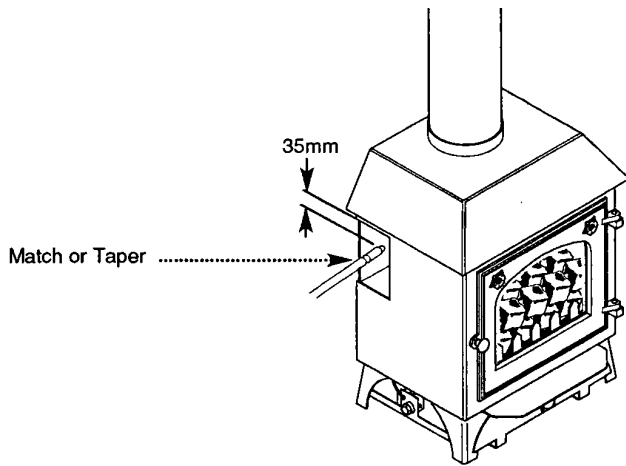

Fig. 23
4. Insert a lighted smoke match in the draught diverter at the left hand side. The match should be positioned 35mm from the top edge of the diverter (Fig. 23). All the smoke should be drawn into the diverter. If not, wait a further 5 minutes and repeat the test.